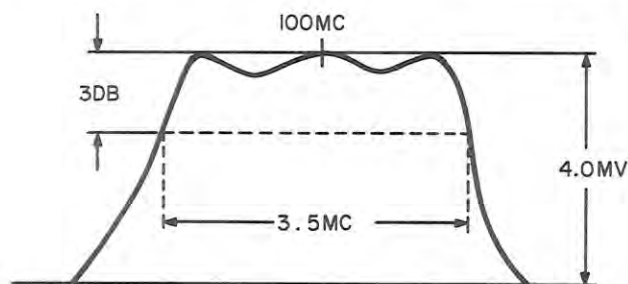

Figure 5-8. RF Response of 30 to 100 mc Tuner
- g. The RF response displayed on the scope should have the characteristics illustrated in Figure 5-8.
- j. The marker should remain on the top of the response over the tuning range of the tuning unit. The response shape should remain essentially as indicated in Figure 5-8. Further slight readjustment of the capacitors in Step h may be necessary to obtain a suitable response over the entire tuning range.